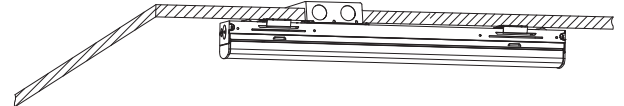

Figure 4
4. Reattach the fixture to the mounting bracket, ensuring it is securely in place and that all wires are neatly tucked inside. The installation is completed (Figure 4).